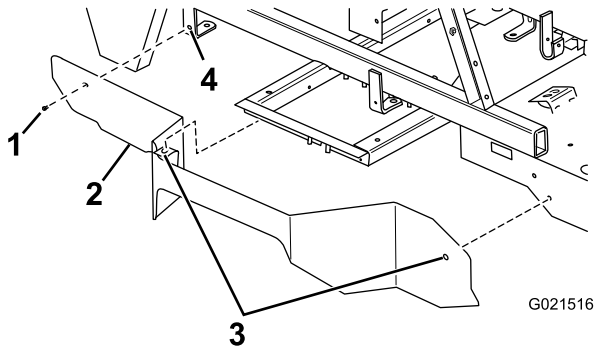

Figure 5
2. Place the right belt guard onto the right side of the machine (where it is to be installed), line up the holes, and mark the location on the support bracket where you need to drill a hole; refer to Figure 5.
4. Secure the right belt guard to the right hand side of the machine using a self-tapping screw and the existing fasteners on the machine as shown in Figure 5.